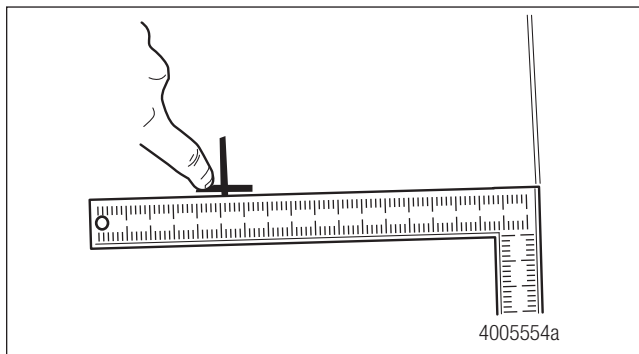

Figure 14.32
- Using a carpenter's square, measure the distance from the transmission universal joint point to the frame rail reference line. Figure 14.32.